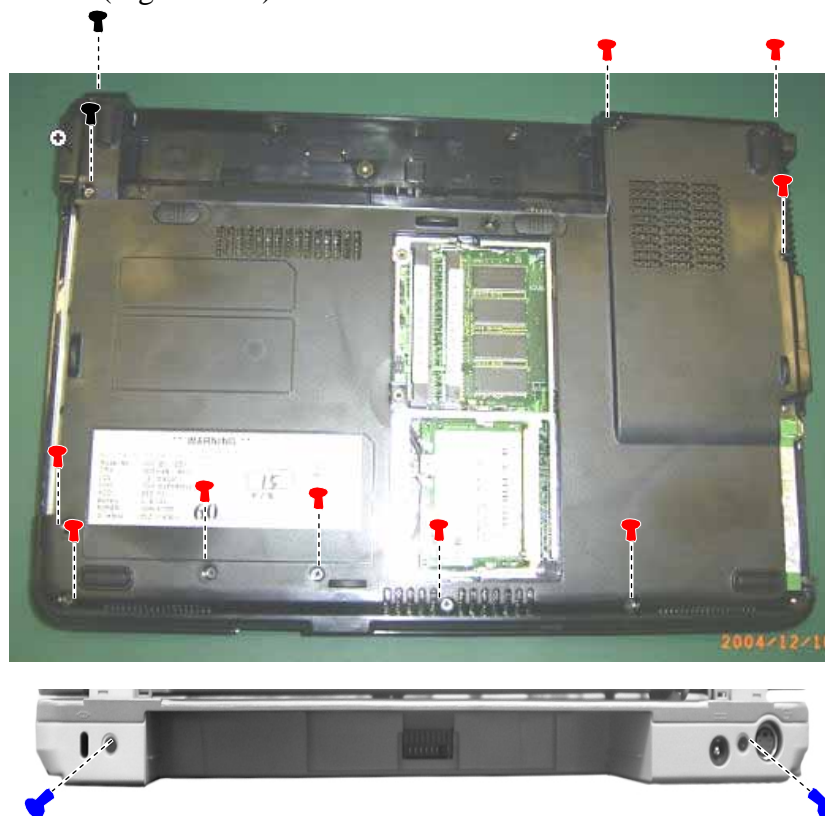

Figure 2-18 Remove 13 screws and lift up the case
2. Put the notebook upside down. Remove **9*(item7. 8) / 2*(item 2)** screws that secure the bottom case. Remove **2 * (item 21)** screws in the rear of the notebook.. (Figure 2-18)